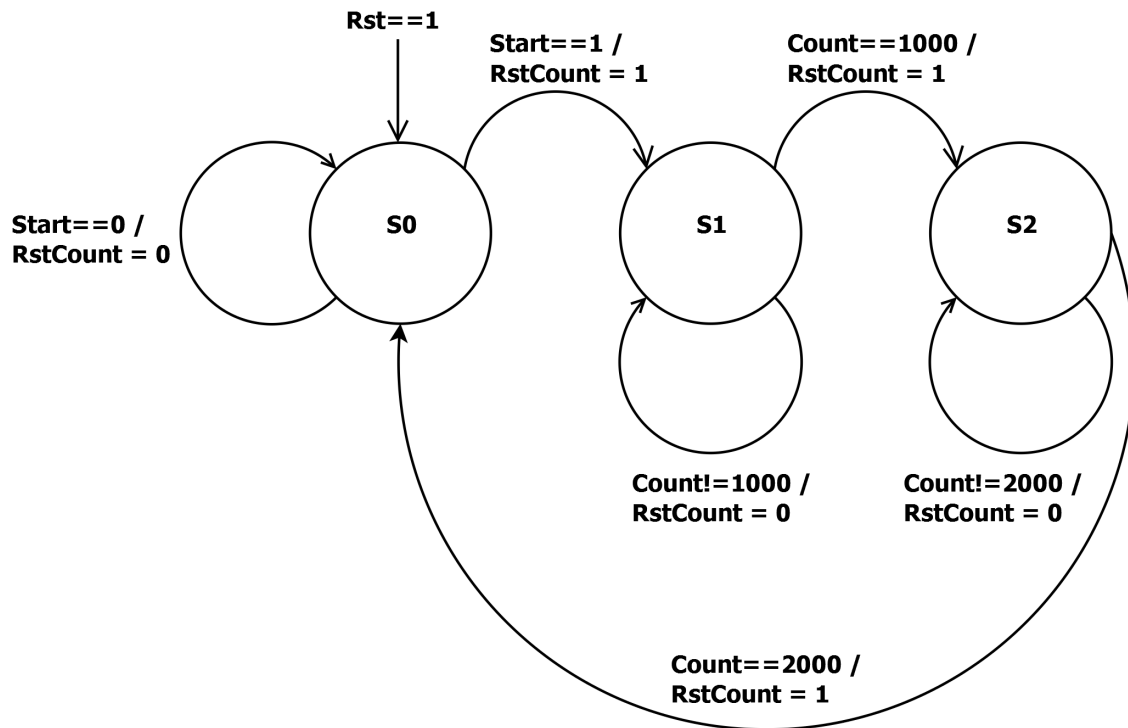
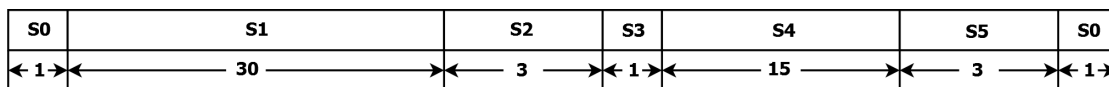

Figure 3: Counter Controlled Paused Transitions
Figure 6: Time Line in Seconds of Initial FSM design
In lab, you will need to implement pauses between state transitions in order to mimic the operation of a real traffic light. As you may have guessed, counters can be used to generate precise timing delays or pauses. Figure 3 depicts this concept with a state machine that after *Start* is asserted, waits in state *S1* for 1000 clock cycles and then in state *S2* for 2000 cycles. To accomplish this, the output signal from the state machine, *RstCount*, resets the counter, and in turn, the output of the counter (and input to the state machine), *Count*, controls the transitions from states *S1* and *S2*.
The brain of the traffic light controller is the FSM. For the the initial design, *Count* and *Rst* constitute the only input to the FSM. The output of the FSM includes the *highwaySignal* and *farmSignal* previously mentioned as well as *RstCount*, the counter reset. The operation of the FSM can be described by Table 1 and the time line in Figure 6. We can also describe this behavior using a state diagram similar to that seen in Figure 3. One of the pre-lab exercises will require you to do just that.
3. Given Table 1 and Figure 6, create a state diagram for the traffic light controller FSM. Be sure to include the appropriate input and output labels. Assume *S0* is the reset state.